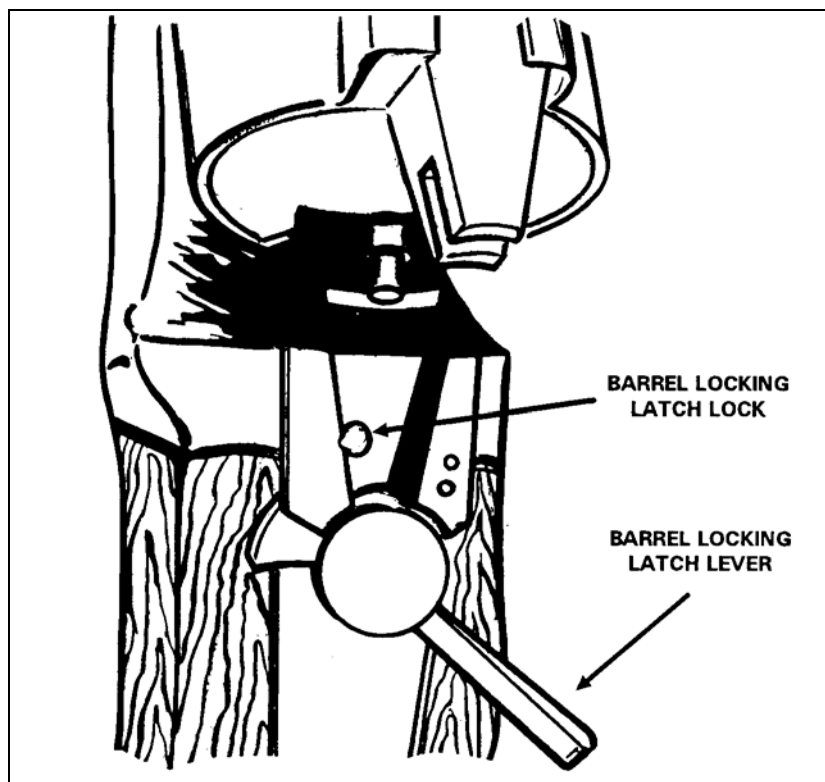

Figure A-15. Barrel release latch lock and barrel locking latch lever.
a. **Unlocking.** Before you can unlock the barrel from the receiver and move the safety to the SAFE position, you must press the barrel locking latch lever all the way to the right. The spring-loaded latch lock holds the barrel locking latch open (Figure A-15, page A-12).